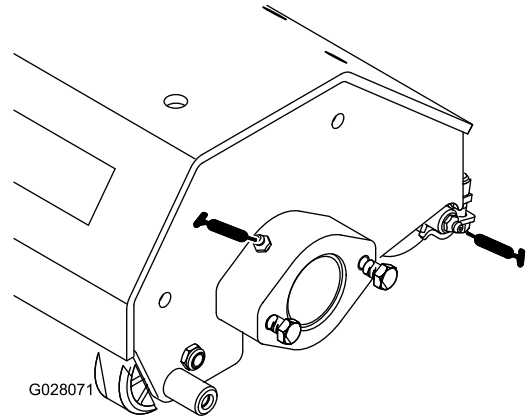

Figure 11
2. Apply grease to the spiker shaft bearings and rear roller bearings (Figure 11) until you feel pressure.